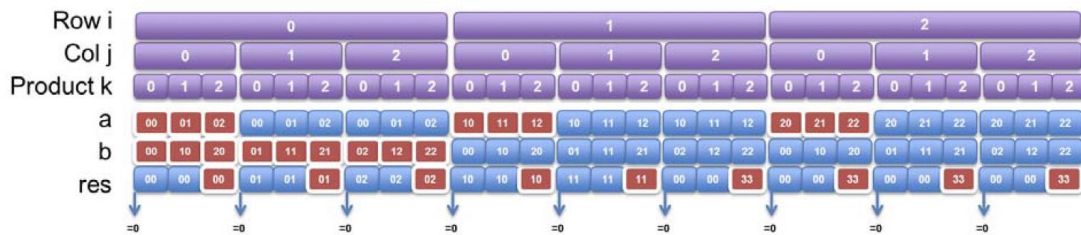

Figure 7-20: Matrix Multiplier Address Accesses
2. Observe the Figure 7.20, we can notice in the original design there are multiple accesses to the same address (blue blocks). However, to build a streaming pattern, the port accesses can only be set as in the red blocks, each address is only read/write once.
3. To achieve the streaming pattern, cache buffer is introduced. As shown in the Figure 7.20, the values appeared in blue blocks should be cached for later use. Therefore, for array a, a cache array of size 3 is used. As for array b, it needs a cache array of size 9. For res, it needs a buffer of size 1 to save the temporary results and receives the final results after all accumulation of this address is done.